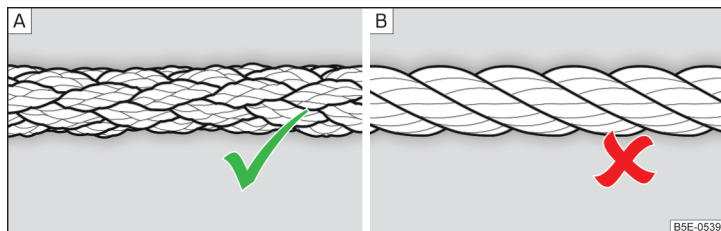

Fig. 335 Braided tow rope / Spiral tow rope
For towing using a tow rope, use only a braided synthetic fibre rope » Fig. 335 - [A] » **I**.
- Wound tow ropes must not be used for towing » Fig. 335 - [B], the towing eye may unscrew out of the vehicle - risk of accident.